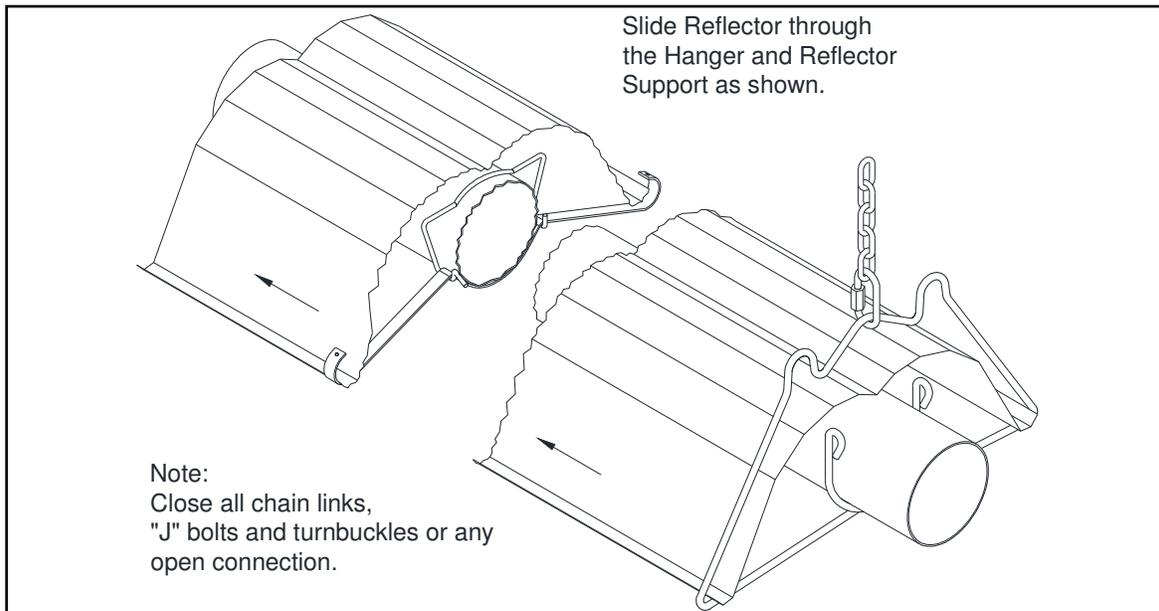

Figure 12: Reflector Installation
- Slide a reflector section into place within the support hanger, (Figure 12)